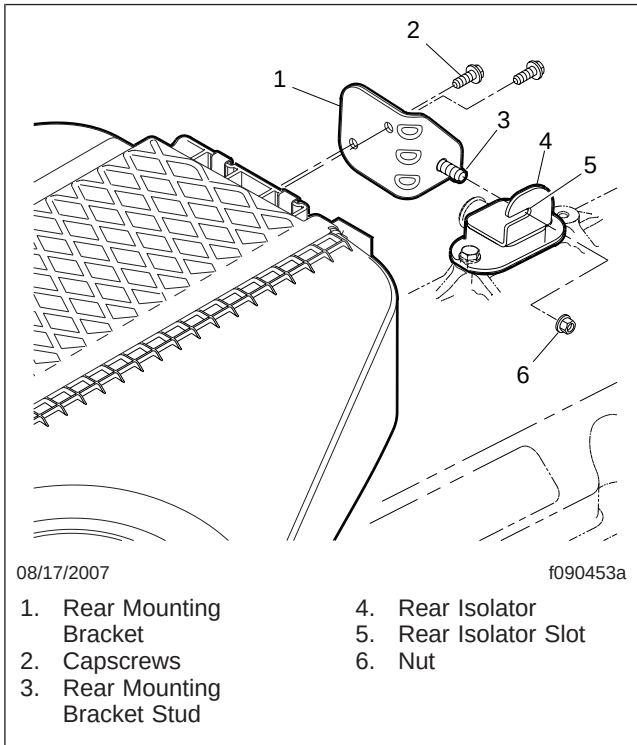

Fig. 3, Air Cleaner Housing Rear Mounting
4. Loosen the nut on the rear mounting bracket stud, then slide the stud out of the rear isolator slot. See Fig. 3.